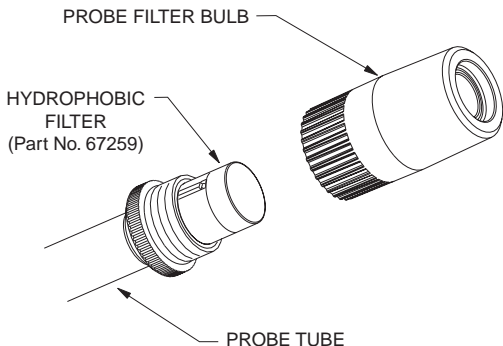

Fig. 12.2 Probe Filter Bulb Removal
- 2) Hold the probe tube then unscrew the probe filter bulb in a counter clockwise direction and remove the bulb from the probe sensor assembly as shown in Fig. 12.2.